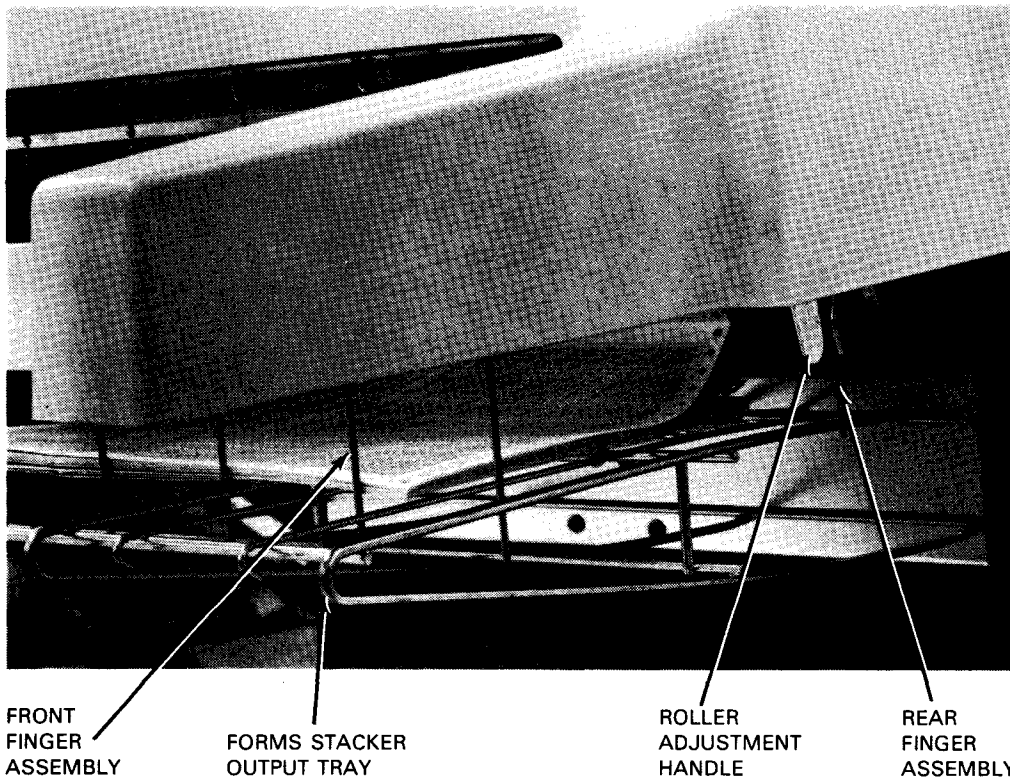

Figure 4-7. Forms Stacker (1200-Lpm Printer)
Optimum performance is produced on single-part, 20-pound bond stock. Satisfactory performance can also be realized on 18-pound bond, provided the relative humidity does not drop below 40 percent and the roller adjustment lever (in the stacker, Figure 4-7) has been properly set. Forms handling problems may increase when forms are made of less than 18-pound paper or if recycled paper is used. These problems can be minimized by avoiding multiline skips or paper advances whenever possible.
- a. Manually raise forms stacker output tray (Figure 4-7) by pulling up evenly at front center of tray. Be certain that tray is fully raised against its upper stop position. Pull finger assemblies to their extreme open position.